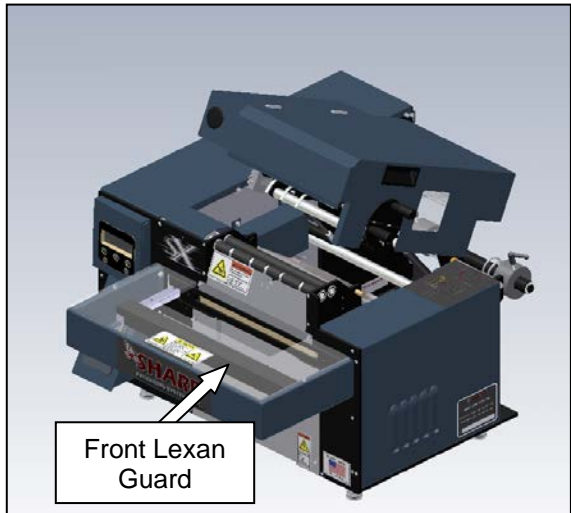

Figure 3-328. Guard Identification
1. Remove the front lexan guard (Figure 3-328).